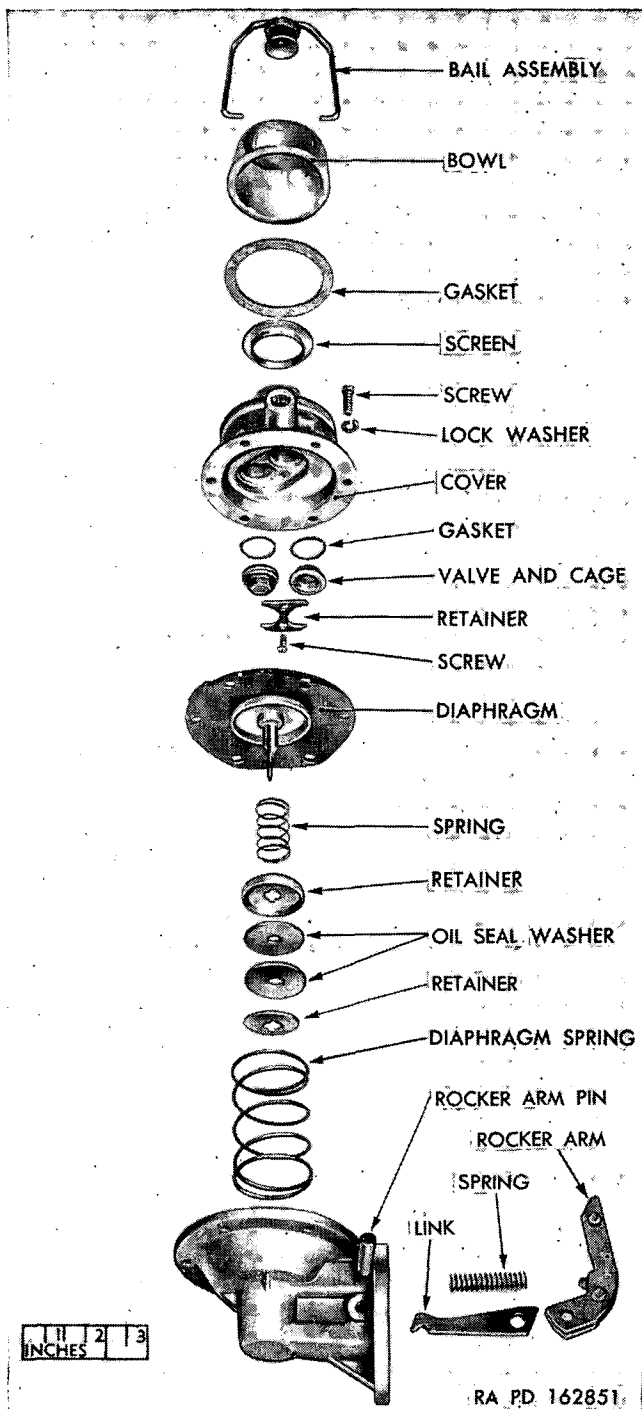

Figure 25. Fuel pump—disassembled (typical series AF construction).
- (1) Mark edges of top cover and body (fig. 25) of series AF fuel pump (fig. 24) with a file. Mark at heat stud, if used. The parts may then be assembled in the same relative positions and heat shield stud properly located.
#### *a. Assemble Body (fig. 25).*